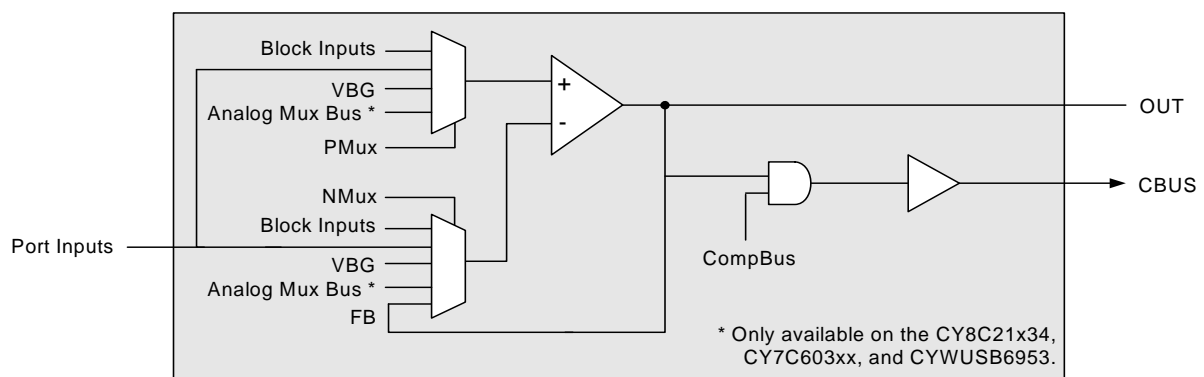

Figure 24-10. Analog Continuous Time Block Diagram for CY8C21x34, CY8C21x23, CY7C603xx, and CYWUSB6953 PSoC Devices
To configure as a comparator, select any NMux choice except feedback (FB). To enable the comparator bus output, the CompBus signal must be set in the ACE0xCR1 register. See Figure 24-10.